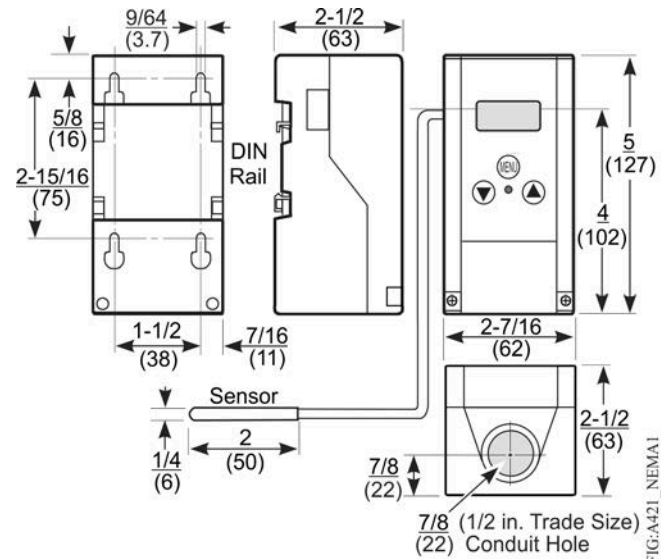
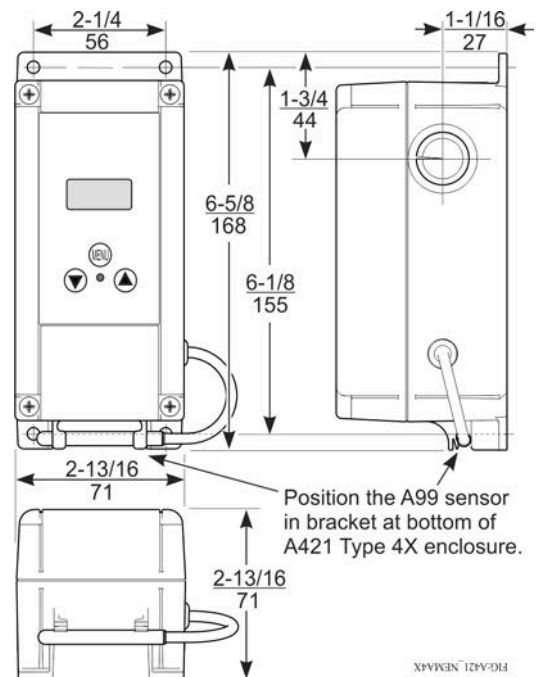

Figure 1: DTC1 Control with Type 1 (NEMA), IP20 Enclosure Dimensions, in. (mm)
Figure 2: DTC1 Control with Type 4X (NEMA), IP66 Enclosure Dimensions, in. (mm)
The DTC1 controls are available either in Type1 (NEMA), IP20 (CE), high-impact plastic enclosures suitable for surface or DIN rail mounting (Figure 1) or in Type 4X (NEMA), IP66 (CE) watertight, corrosion resistant surface mount enclosures (Figure 2).